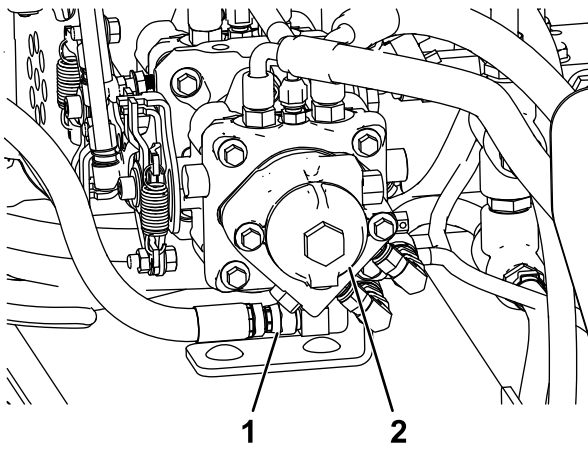

Figure 50
3. Locate the hose connecting the hydraulic filter and the hydraulic pump and place a drain pan under the hose fitting on the hydraulic pump (Figure 50).